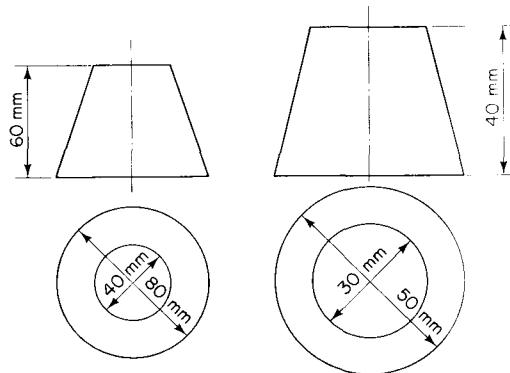

Fig. 3.168
6. Draw the developed shape of the objects shown in Fig. 3.168.